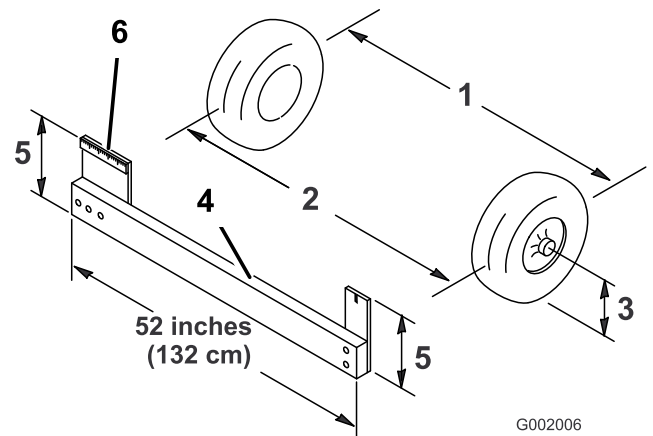

Figure 56
4. Measure the distance between both of the front tires at the axle height at both the front and rear of the front tires (Figure 56). A fixture or alignment gauge is needed for the rear measurement of the front tires at axle height. Use the same fixture or alignment gauge to accurately measure the front of the front tires at axle height (Figure 56).